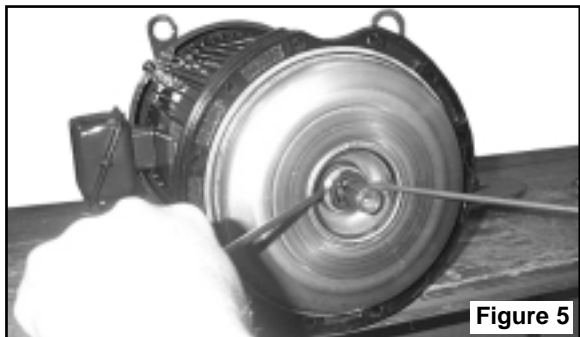

Figure 5
9. Pry off rotating member of mechanical seal from sleeve by using two (2) screwdrivers. Be careful not to damage the pump cover. See Figure 5.